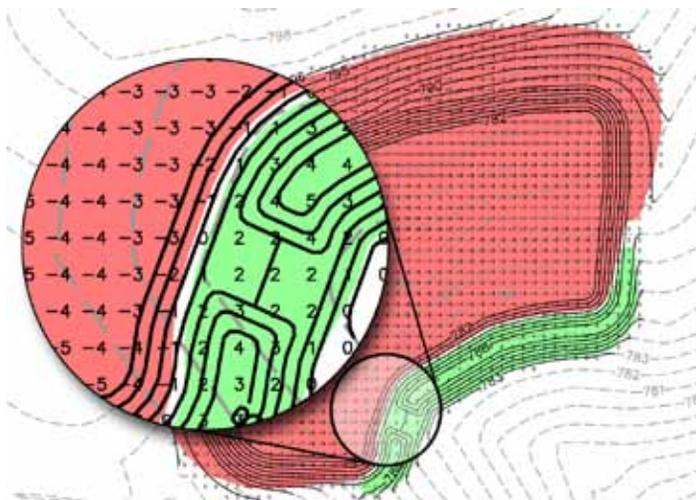

Figure 12: Grid labels make it easy to identify cut-fill locations and amounts.
Step 7: When given the opportunity to modify the values, press Enter to accept the grid as defined. When finished, your drawing should look similar to Figure 12.